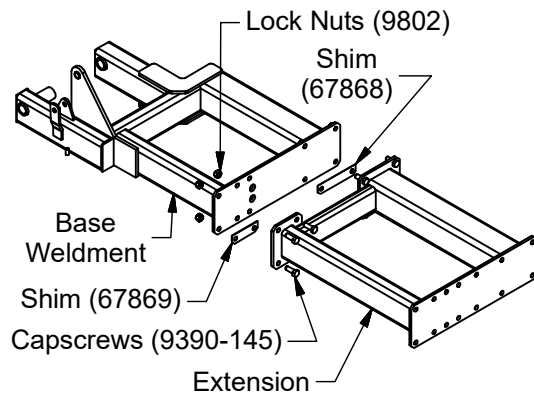

FIG. 2-3
- Make sure the 2-piece mounting plate is bolted to the machine. The 1-piece mounting plate should be positioned away from the machine. See FIG. 2-3.
5. Attach the left-hand extension to the left-side using seven 3/4"-10UNC x 2" capscrews (9390-145), one 3/4"-10UNC x 2 1/2" capscrew (9390-147) and eight 3/4"-10UNC locknuts (9802). See FIG. 2-2 for reference. Add shims (67868 and 67869) between wings and wing extensions for proper leveling (FIG. 2-3).